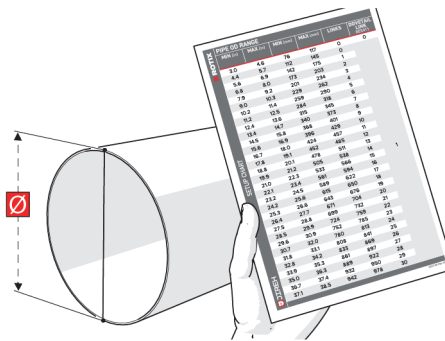

Figure 2-1 Refer to sizing chart
2. Based on the pipe or tubing diameter, use the sizing chart to find the number of links required (see Table 7 on page 77 and Figure 2-1 on page 31).